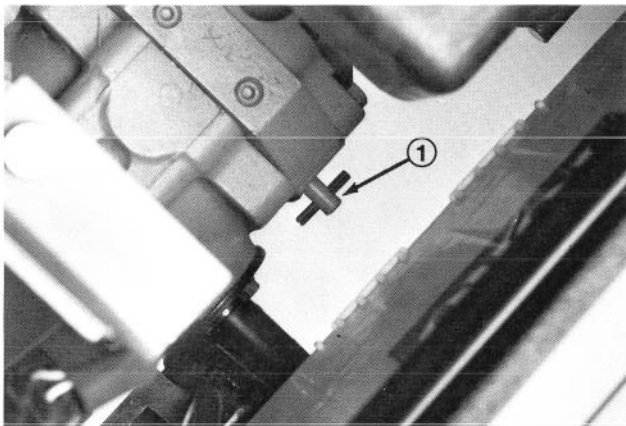

Figure 13
1. Reach in and rotate by-pass valve on transmission (Fig. 13) counterclockwise $1/2$ to 1 turn. Opening the valve opens an internal passage in the pump, thereby bypassing transmission oil. Because fluid is by-passed, the machine can be pushed without damaging the transmission.